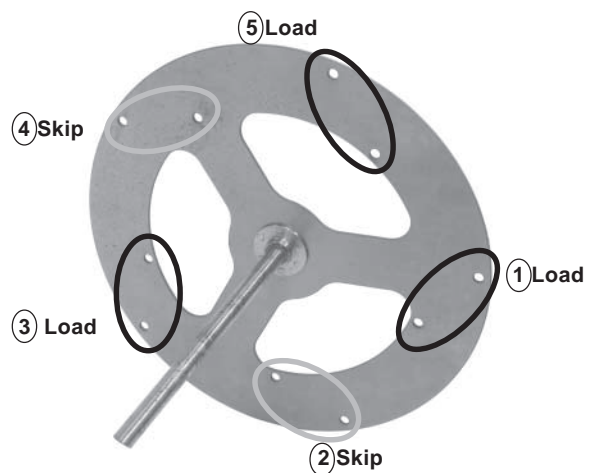

Fig. 13
- Using , load accessory into position 1, skip position 2, load position 3, etc. (Fig. 13).